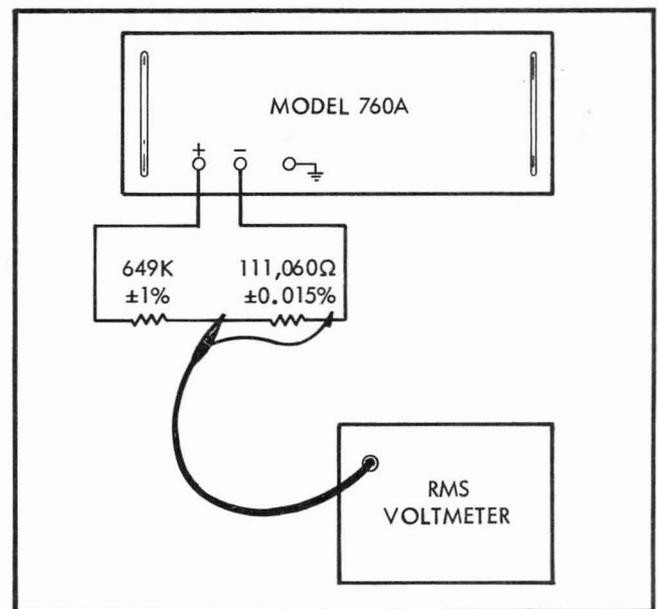

Figure 4-12. CAPACITANCE COMPENSATION SETUP
- h. Connect the Model 760A and test equipment as shown in Figure 4-12.